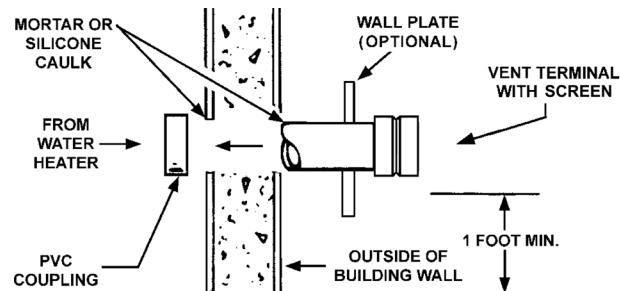
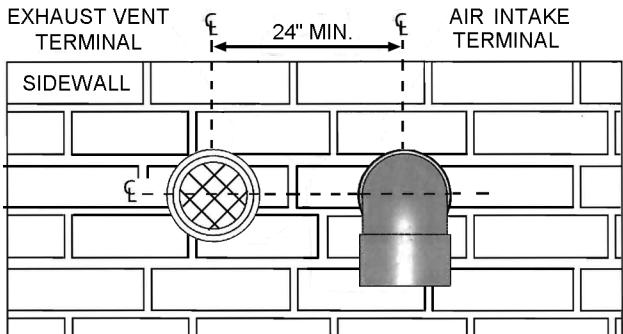
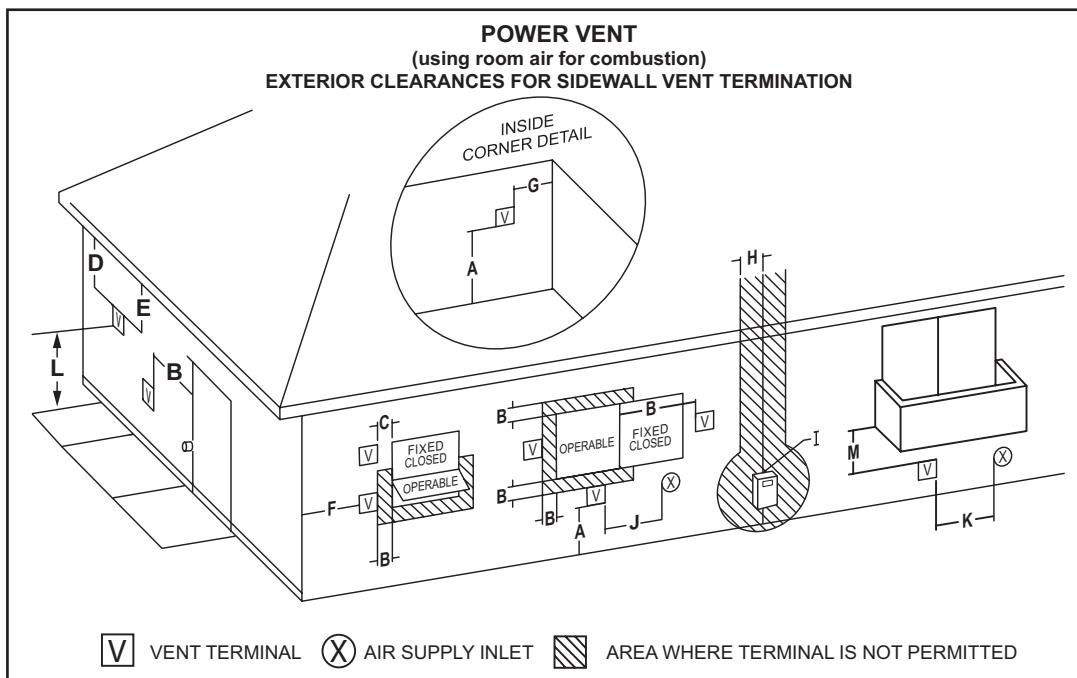
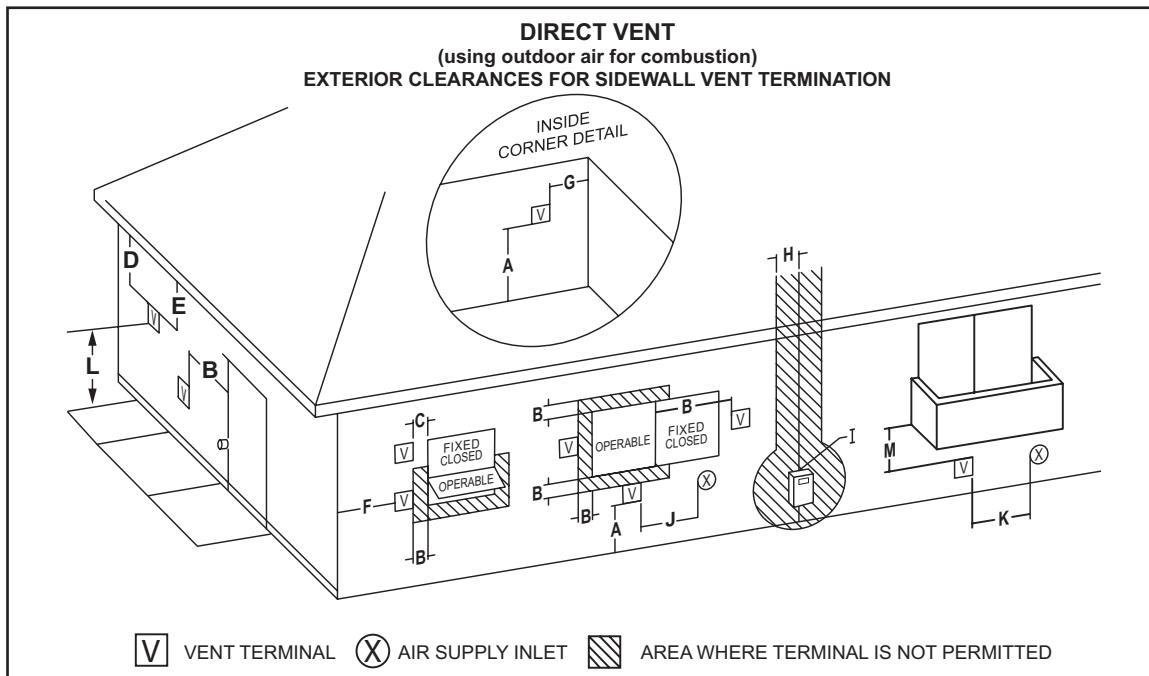

Figure 12: VENT TERMINATION
Figure: 13A
Figure: 15
Figure: 16
2. Through-the-Wall Termination - horizontal vent termination directly through an outside wall, see "Figure 12: VENT TERMINATION" on Page 27.
Direct venting into dead spaces such as alleys, atriums, and inside corners can cause recirculation of flue gases. Recirculation of flue gases will cause sooting, and icing of the combustion air intake during severe cold weather. To prevent the recirculation of flue gases, maintain as much distance as possible between the combustion air intake and the exhaust vent terminal refer to "Figure: 15" and "Figure: 16" on Page 29 & Page 30 respectively.
The first step is to determine where the vent pipe will terminate. See Figures 12, "Figure: 13A", and "Figure: 14". The vent may terminate through a sidewall as shown in Figure 12 and "Figure: 14" or through the roof as shown in "Figure: 15" and "Figure: 16".
The vent system must terminate so that proper clearances are maintained as cited in local codes or the current edition of the National Fuel Gas Code, (ANSI Z223.1, 12.9.1 through 12.9.4) or the Natural Gas and Propane Installation Code (CAN/CSA-B149.1). See "Figure: 15" and "Figure: 16".
Instructions on proper installation through a sidewall are provided in Figures 12, "Figure: 13A", and "Figure: 14".
Cut a length of pipe about 3.5 inches (8.9 cm) longer than the wall thickness at the opening. Glue the vent terminal to this section of pipe. Slide the wall plate over the pipe to stop against the vent terminal. Place a bead of caulk (not supplied) around the gap between the pipe and cover plate. Apply enough to fill some of the gap between the pipe and wall. Place some of the caulk on the back of the plate to hold it against the wall after installation. If the vent pipe is installed up to the wall, with a coupling on the end against the wall opening, the pipe with the vent terminal can be prepared for gluing before inserting through the wall. Slide the pipe through the wall and insert into the coupling on the other side of the wall, making sure that the vent terminal ends up pointed in the correct position, see Figure 12.
- If the air intake pipe is installed up to the wall, with a coupling on the end against the wall opening, the pipe with the air intake terminal can be prepared for gluing before inserting through the wall. Slide the pipe through the wall and insert into coupling on the other side of the wall, making sure that the air intake terminal ends up pointed in the correct position (Figure 13A and Figure 14).